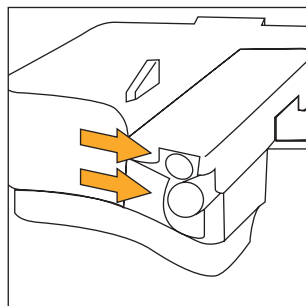

Fig.33
- Wash all the components with warm soapy water and rinse thoroughly. Make sure there are no milk residues inside the two holes in the lid of the milk container indicated by the arrows in the fig. 33.